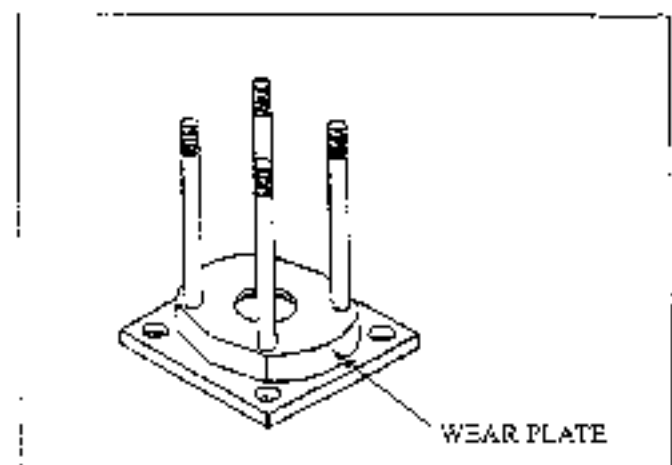

Figure 40
2. Install the wear plate over the studs. The smaller hole goes up. See Figure 40.